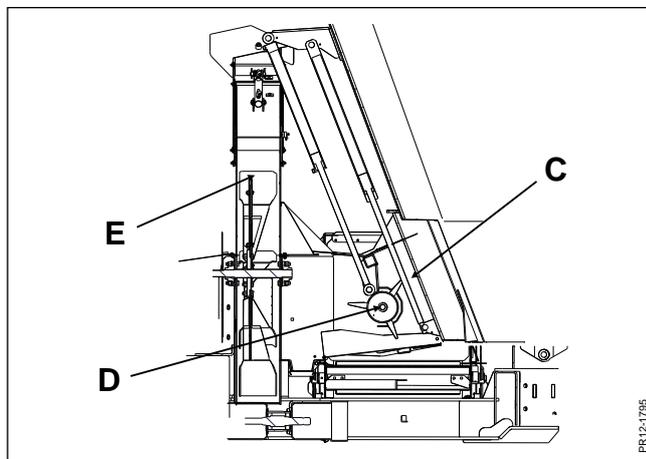

Fig. 2-4
**Fig. 2-4** This is the adjustment for straw bedding. (**C**) has been moved down and (**D**) can rotate. The straw feeding rotor ensures an even supply of straw to the turbine (**E**). It can also be used for brief interruptions of the straw bedding as the supply of straw to the turbine stops when the straw feeding rotor is not rotating.